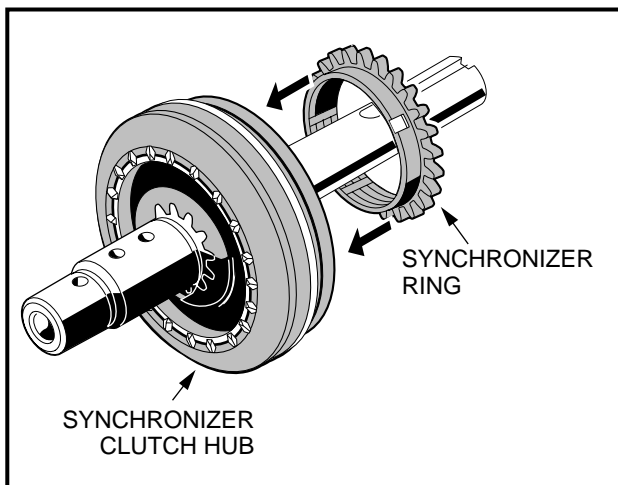

Figure 16-59 Synchro. Ring
5. On the long end of the shaft, install the synchronizer ring (45) (**Figure 16-41, Page 16-18**) with the smooth collar of the ring towards the clutch hub. Make sure the three notches in the collar mate with the synchronizer inserts in the synchronizer sleeve as shown (**Figure 16-59, Page 16-26**).